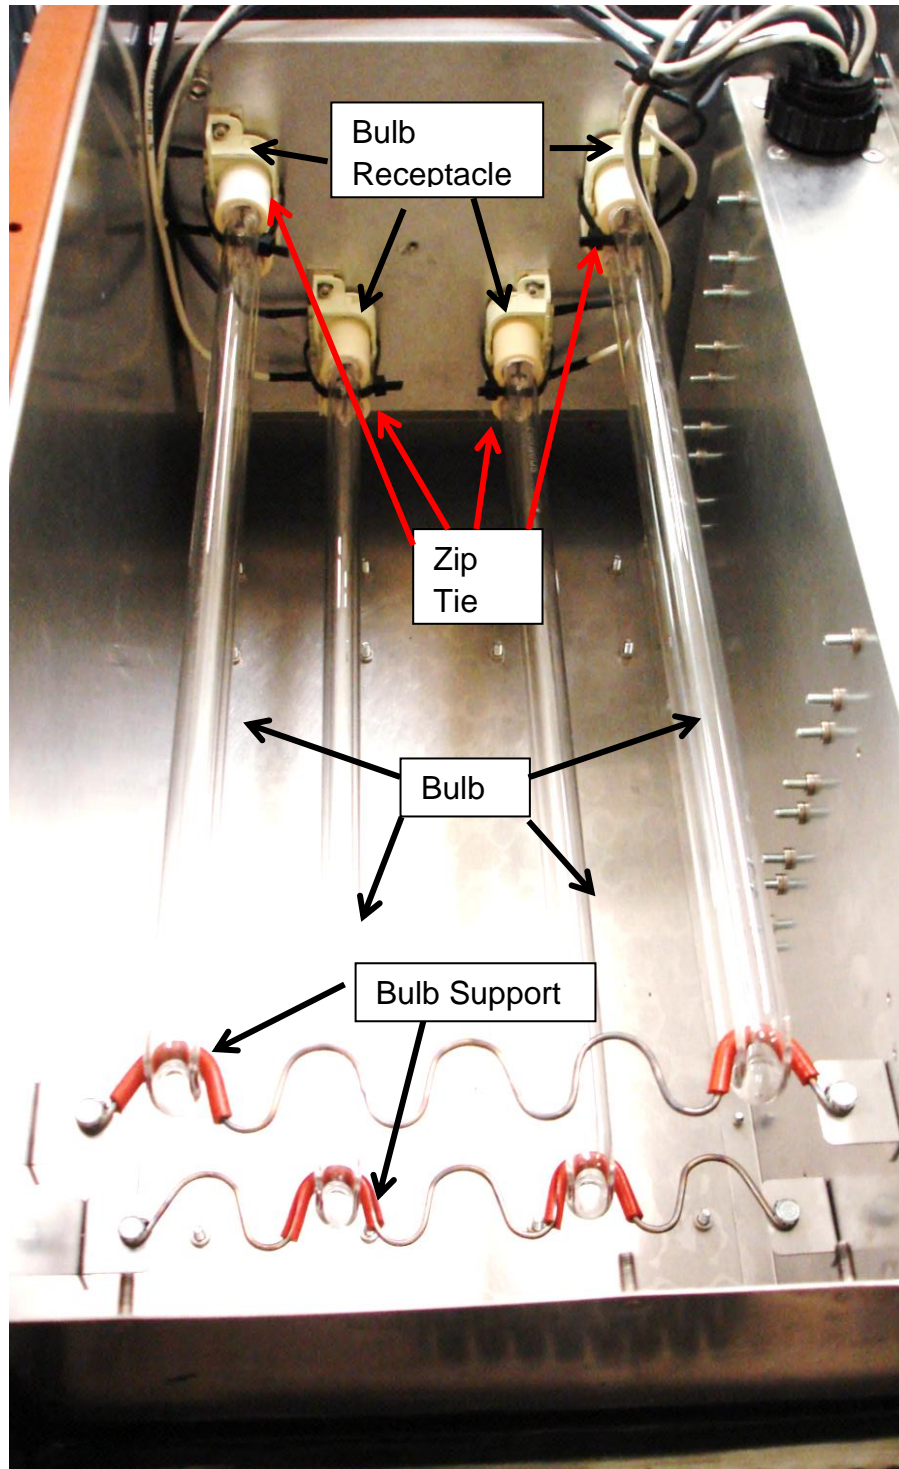

Figure 6: Bluezone™ Model 2400 with Cover Removed
- ⇒ See Figure 6 for guidance.